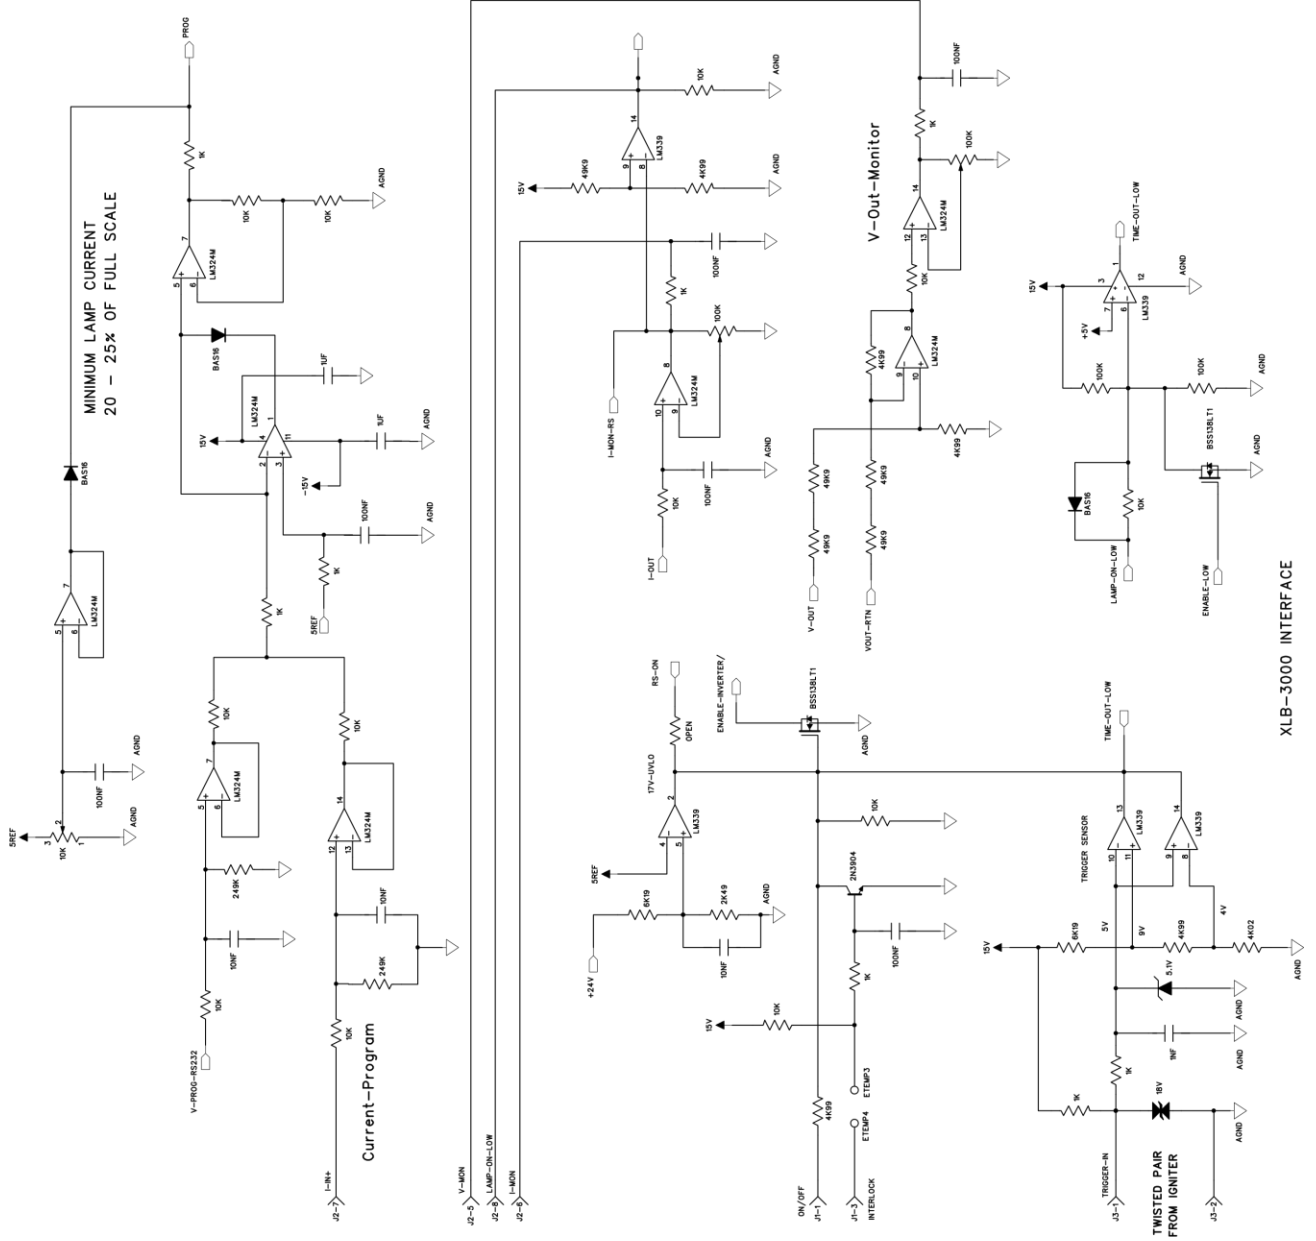

Figure 4
(Refer to Figure 4 XLB-3000 Interface Schematic)
3. **Interface Connection:** Connect the user system to the 15 pin D-sub connector shown in Figure 5. See Table 1 and Figure 4 for description of the XLB-3000 Interface and the associated simplified interface schematic.